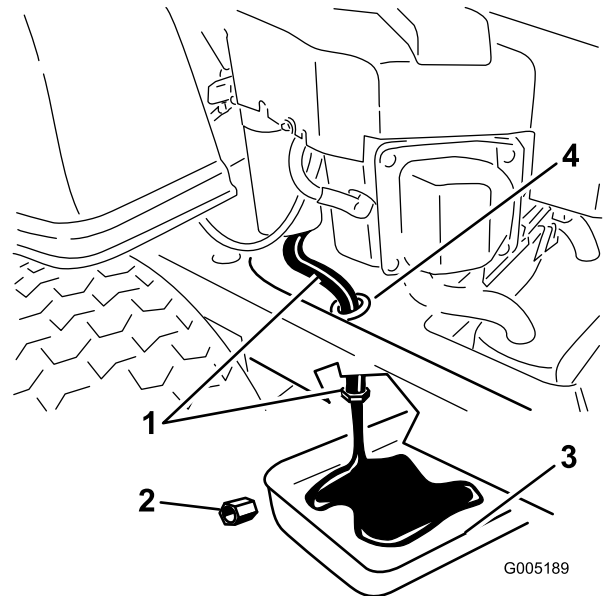

Figure 27
5. Locate the oil drain hose on the left side of the engine. The drain plug is attached to a drain hose routed through a drain hole in the machine frame (Figure 27). Clean the area around the oil drain plug cap and the oil drain hose.
6. Place a pan underneath machine directly below the oil drain hose as shown in Figure 27.
7. Using two wrenches (one to hold the oil drain hose and one to loosen the plug), remove the oil drain plug (Figure 27).
13. When oil has drained completely, install the oil drain plug. Tighten the plug to 14 N-m (125 in-lb) torque. Wipe up any excess oil (Figure 27).